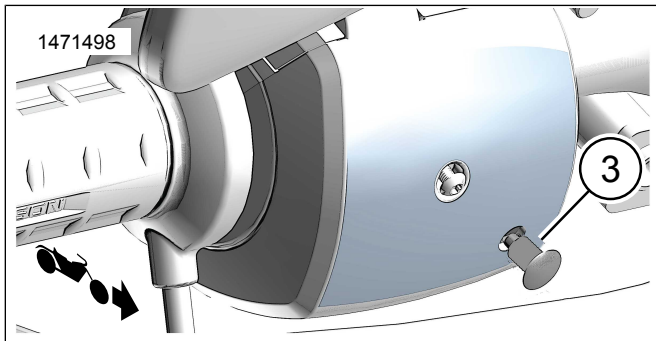

Figure 6. Plug
6. See Figure 6. Install new plug (3).